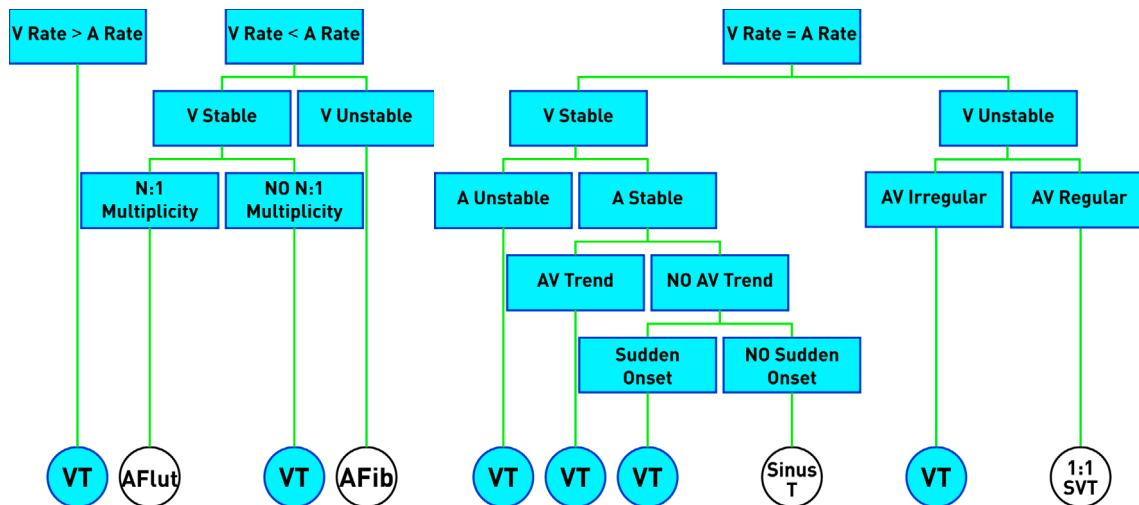

Figure 60: The SMART Detection® decision tree
SMART® Detection is one of the most sophisticated detection algorithms available for the discrimination of ventricular tachycardia (VT) and supraventricular tachycardia (SVT). SMART® Detection (Figure 60) is designed to increase detection specificity (i.e., to increase the likelihood that atrial tachycardia is not declared a VT) without sacrificing sensitivity (i.e., the ability to detect and treat all VTs with therapy). This translates into improved patient comfort and care from reduced inappropriate therapies. With SMART® Detection, inappropriate shocks for SVT are minimized without compromising accurate VT detection and therapy. Clinical studies demonstrated that SMART® Detection provided 100% sensitivity and 94% specificity.